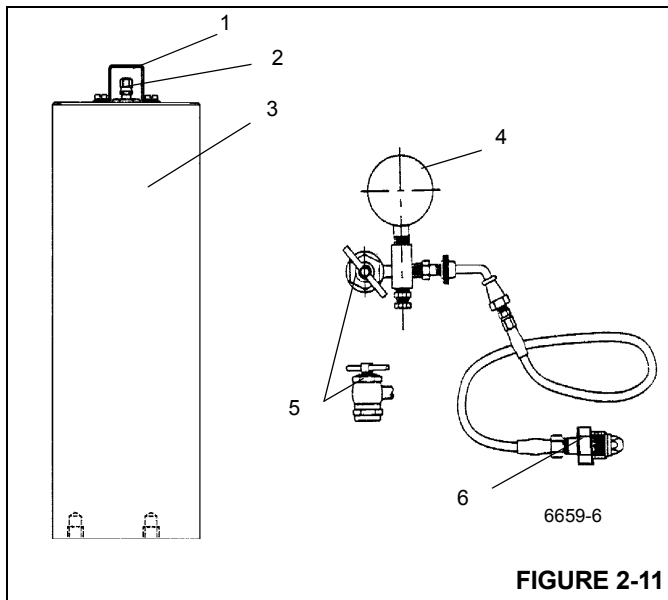

FIGURE 2-11
1. With the engine off, discharge all of the pressurized oil stored in the accumulators by depressing the service brake pedal on the cab floor several times. Remove the gas valve guard and cap on the accumulator Figure 2-11.
2. Before attaching the gas charging assembly Figure 2-11 onto the accumulator gas valve, back the gas chuck "T" handle all the way out (counterclockwise).
6. If the pressure is 62 bar  $\pm 4/-0$  (900 psi  $\pm 50/-0$ ), remove the charging valve assembly by turning the "T" handle all the way out on the gas chuck and then opening the bleed valve Figure 2-11.
brake pedal on the cab floor several times. Remove the gas valve guard and gas valve cap on the accumulator Figure 2-11.
3. Before attaching the charging assembly Figure 2-11 to the accumulator gas valve, back the gas chuck "T" handle all the way out (counterclockwise).
7. If the pre-charge pressure is higher than 62 bar  $\pm 4/-0$  (900 psi  $\pm 50/-0$ ), close the nitrogen bottle valve and slowly open the bleed valve on the charging assembly Figure 2-11 until the pre-charge pressure is correct.